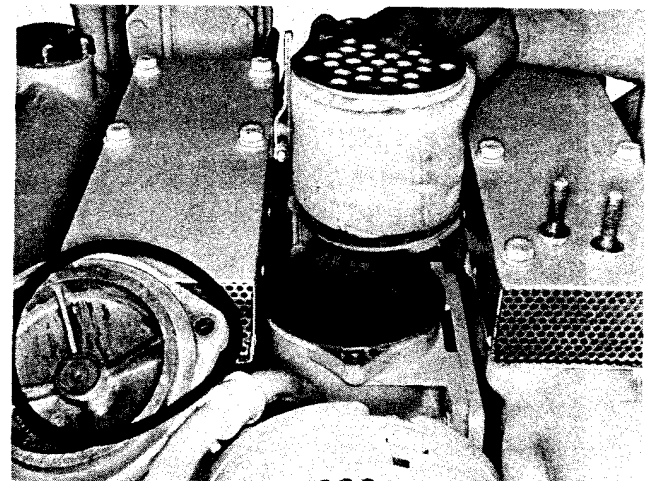

Fig. 2-17, (V11955). Installing package type corrosion resistor
6. Remove new element from transparent package; install element in housing. Fig. 2-17.